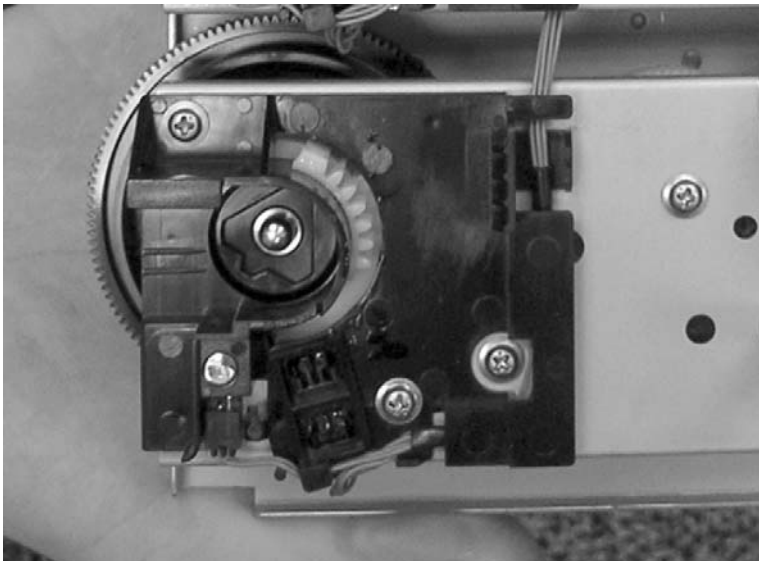

Figure 6-63 Remove the main drive assembly (9 of 14)
9. Disconnect the eight connectors (callout 17 and also shown in Figure 6-63 Remove the main drive assembly \(9 of 14\) on page 262) and unrout the cable (callout 18) from the cable guide (callout 19). Do not remove the black plastic covers under any circumstance. Then remove the main drive assembly.